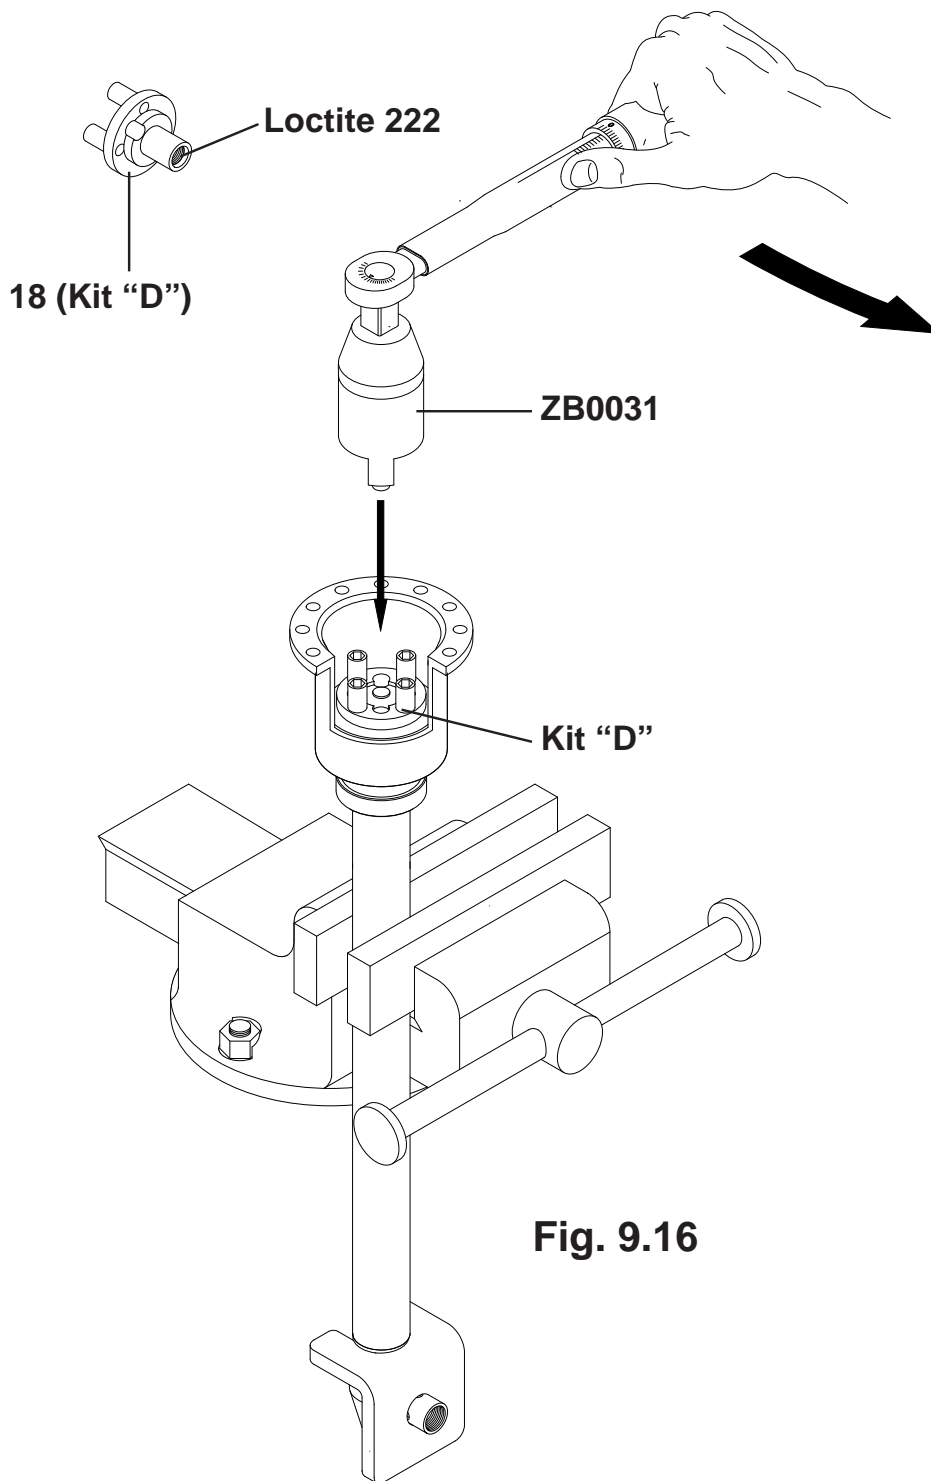

Fig. 9.16
9.4.12) Put a few drops of Loctite 222 on the thread of the output shaft pos.18 (Kit "D"), screw the same onto the internal rod and tighten with the special spanner (ZB0031) and check with dynamometer (fig.9.16).